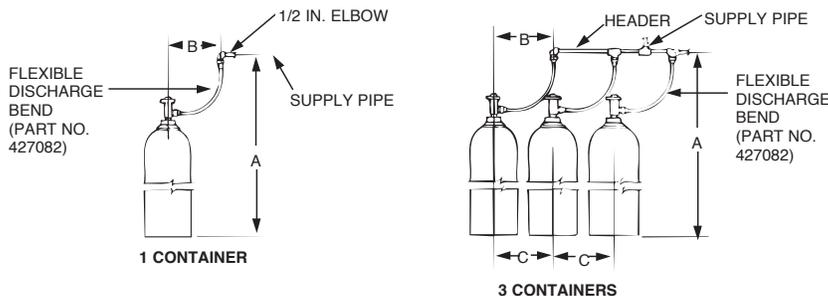

FIGURE 6-11
1. Starting with the container manifold, securely mount the manifold at the appropriate height as shown in Figure 6-11. Make certain that if accessories piping is to be done later that the end of the manifold contains a tee instead of an elbow. The outlet of the tee will later be reduced down to 1/4 in. for piping to the accessories.